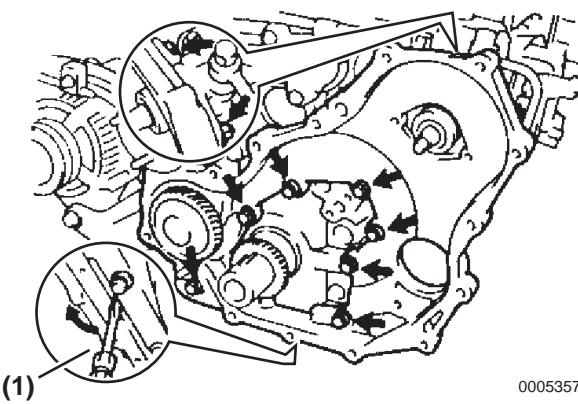

Figure 8-5
7. Insert a screwdriver (Figure 8-5, (1)) between the oil pump and cylinder block and pry to remove the oil pump.